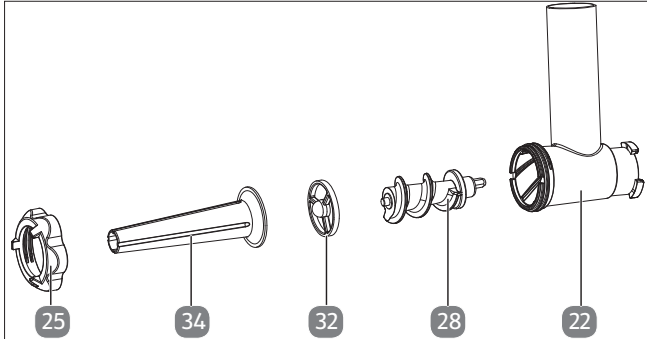

Fig. 19 – Accessories for making sausages
1. Assemble the accessories as shown (see Fig. 19).